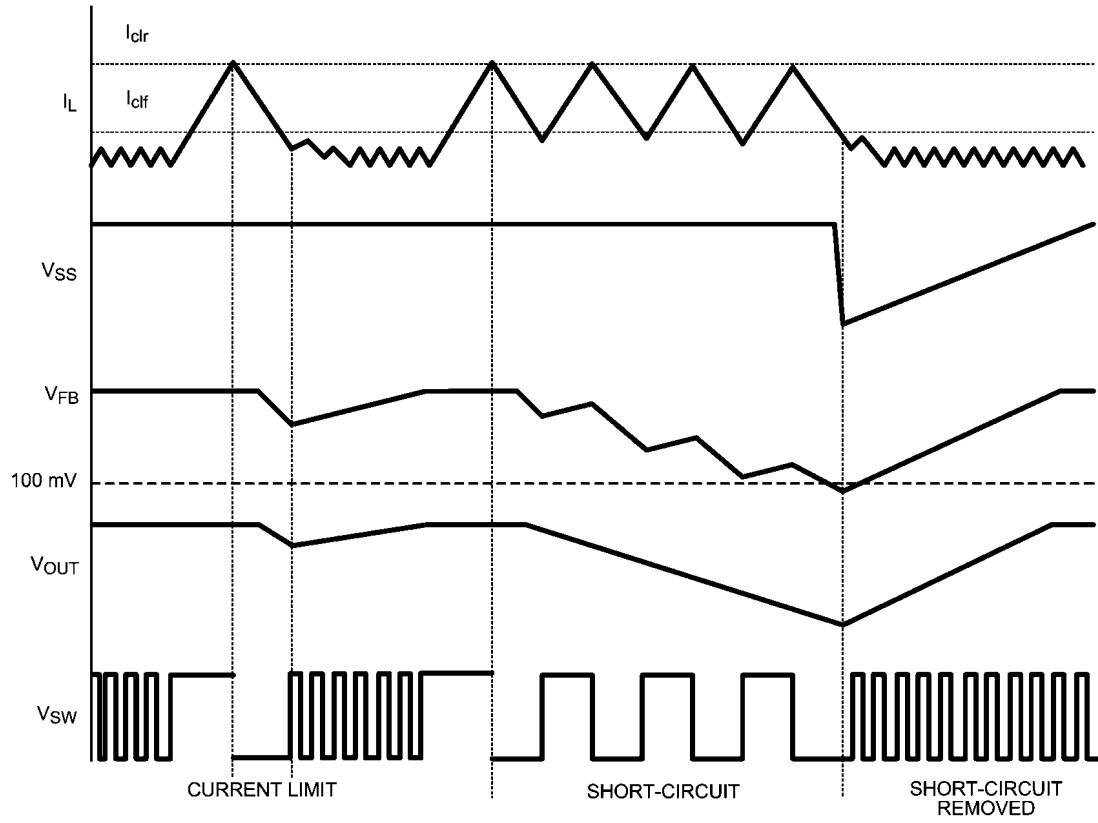

FIGURE 2. Current Limit Conditions
The LM21212-1 has current limit protection to avoid dangerous current levels on the power FETs and inductor. A current limit condition is met when the current through the high side FET exceeds the rising current limit level (I_{CLR}). The control circuitry will respond to this event by turning off the high side FET and turning on the low side FET. This forces a negative voltage on the inductor, thereby causing the inductor current to decrease. The high side FET will not conduct again until the lower current limit level (I_{CLF}) is sensed on the low side FET. At this point, the device will resume normal switching. A current limit condition will cause the internal soft-start voltage to ramp downward. After the internal soft-start ramps below the Feedback (FB) pin voltage, (nominally 0.6 V), FB will begin to ramp downward, as well. This voltage foldback will limit the power consumption in the device, thereby protecting the device from continuously supplying power to the load under a condition that does not fall within the device SOA. After the current limit condition is cleared, the internal soft-start voltage will ramp up again. *Figure 2* shows current limit behavior with V_{SS} , V_{FB} , V_{OUT} and V_{SW} .